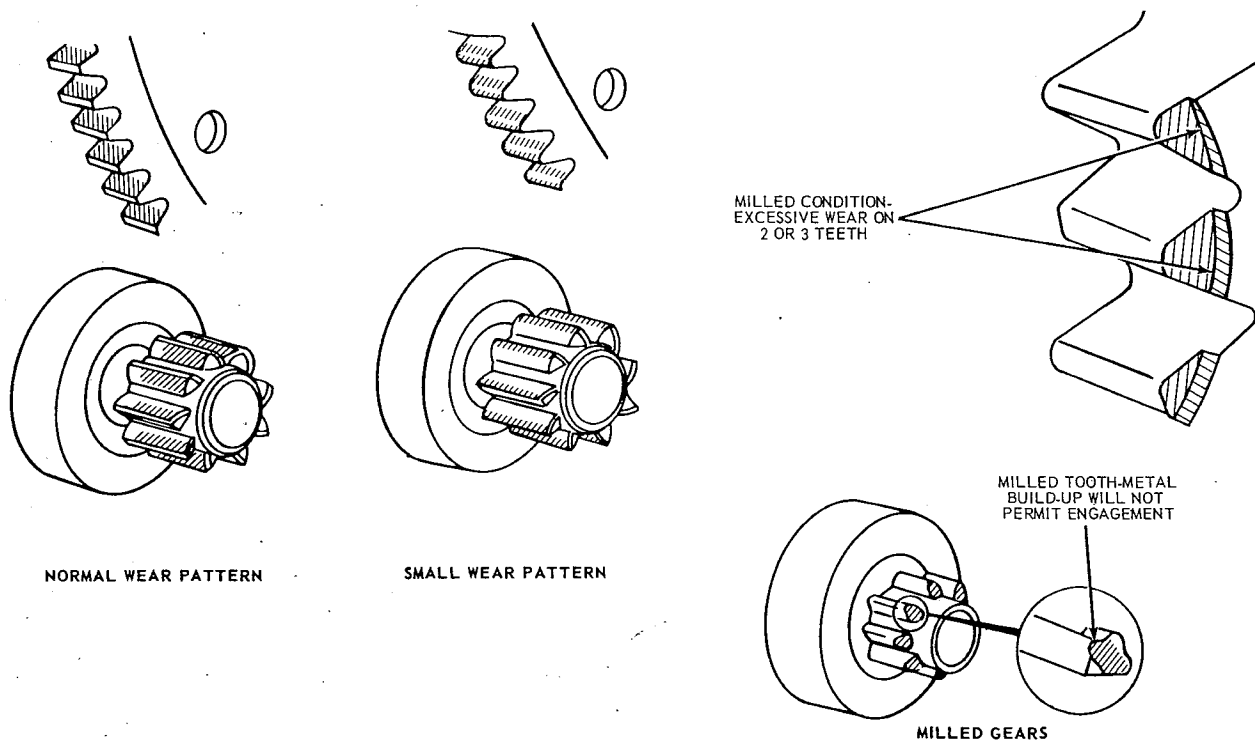

FIG. 7 Pinion and Ring Gear Wear Patterns
- Examine the wear pattern on the starter drive teeth. The pinion teeth must penetrate to a depth greater than 1/2 the ring gear tooth depth (Figure 7), to eliminate premature ring gear and starter drive failure.
- Replace starter drives and ring gears with milled, pitted or broken teeth or that show evidence of inadequate engagement (Figure 7).